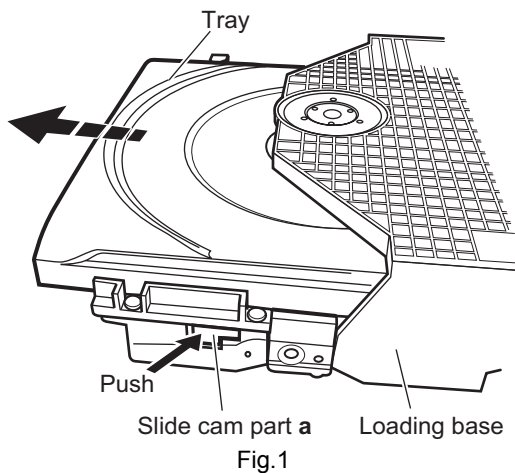
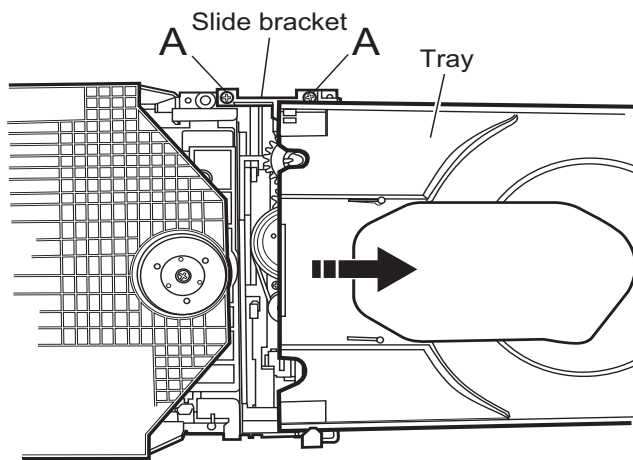
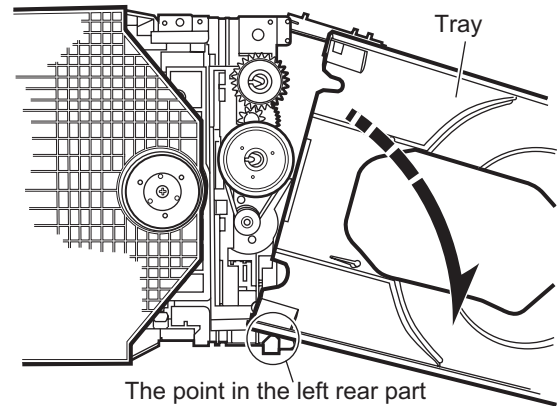

Fig.1
Fig.2
Fig.3
2.2.1 Removing the tray (See Figure 1, Figure 2, Figure 3, Figure 4, Figure 5, Figure 6)
- (1) Push **a** of the slide cam on the hole in the right side of the loading base by using a driver until it stops. (See Figure 1.)
- (2) The tray comes out. Pull the tray in a front direction until it stops.
- (3) Remove the two screws **A** attaching the slide bracket. (See Figure 2.)
- (4) Tilt the tray in a direction of the arrow around the point in the left rear part of the tray. (See Figure 3.)